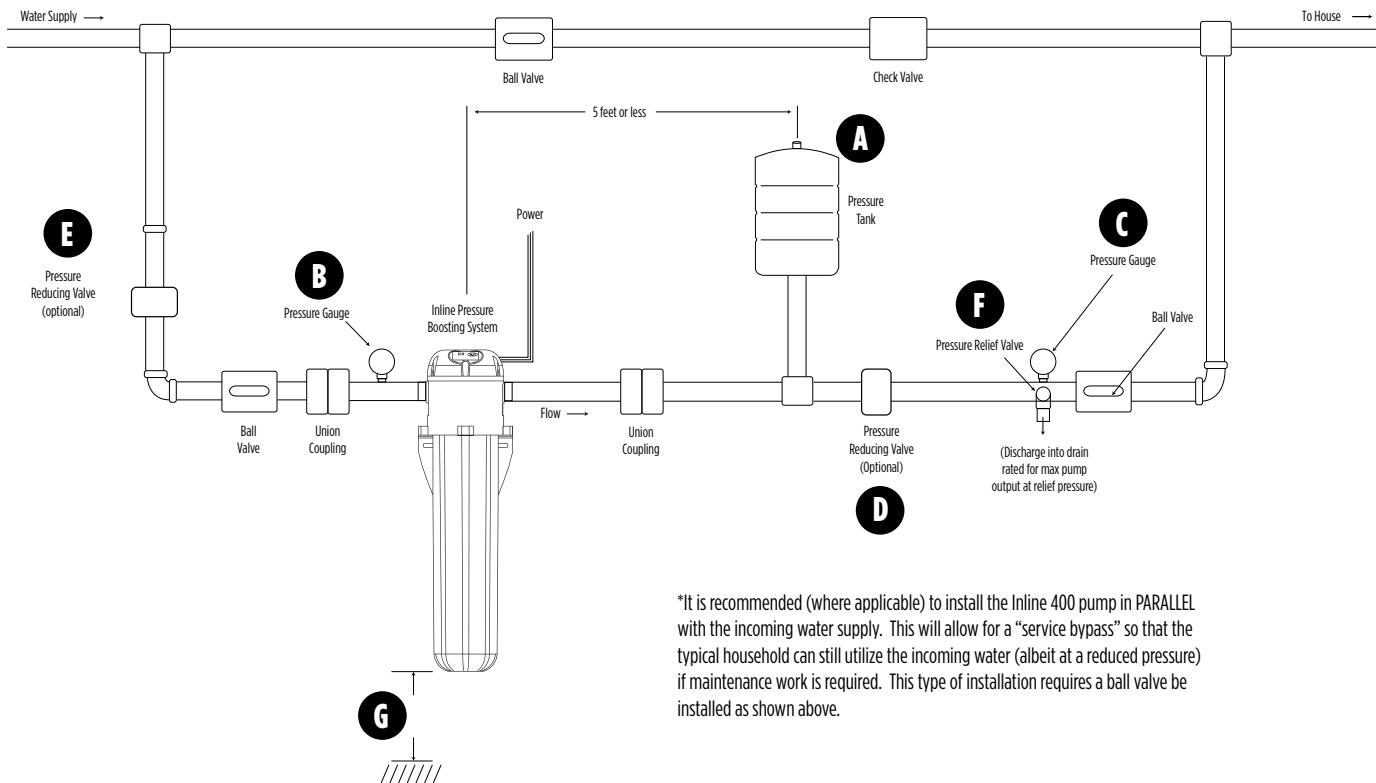

Figure 1
Inline 400 Installation Orientation (refer to Figure 1 if necessary)
4. Install inlet and outlet plumbing and pressure tank as shown in Figure 1. The inlet and outlet of the unit is marked with "INLET" and "OUTLET" respectively. Unions should be installed on the suction and discharge ends of the pump (use of PTFE thread sealant tape is recommended over paste; do not overtighten). Internal check valves are provided on both the suction and the discharge ends of the pump. These valves can help in preventing backflow. If the optional bypass loop is used, a check valve should also be installed in the bypass (see Fig. 1). Be sure to check all local plumbing codes to ensure that all requirements pertaining to backflow prevention are met.